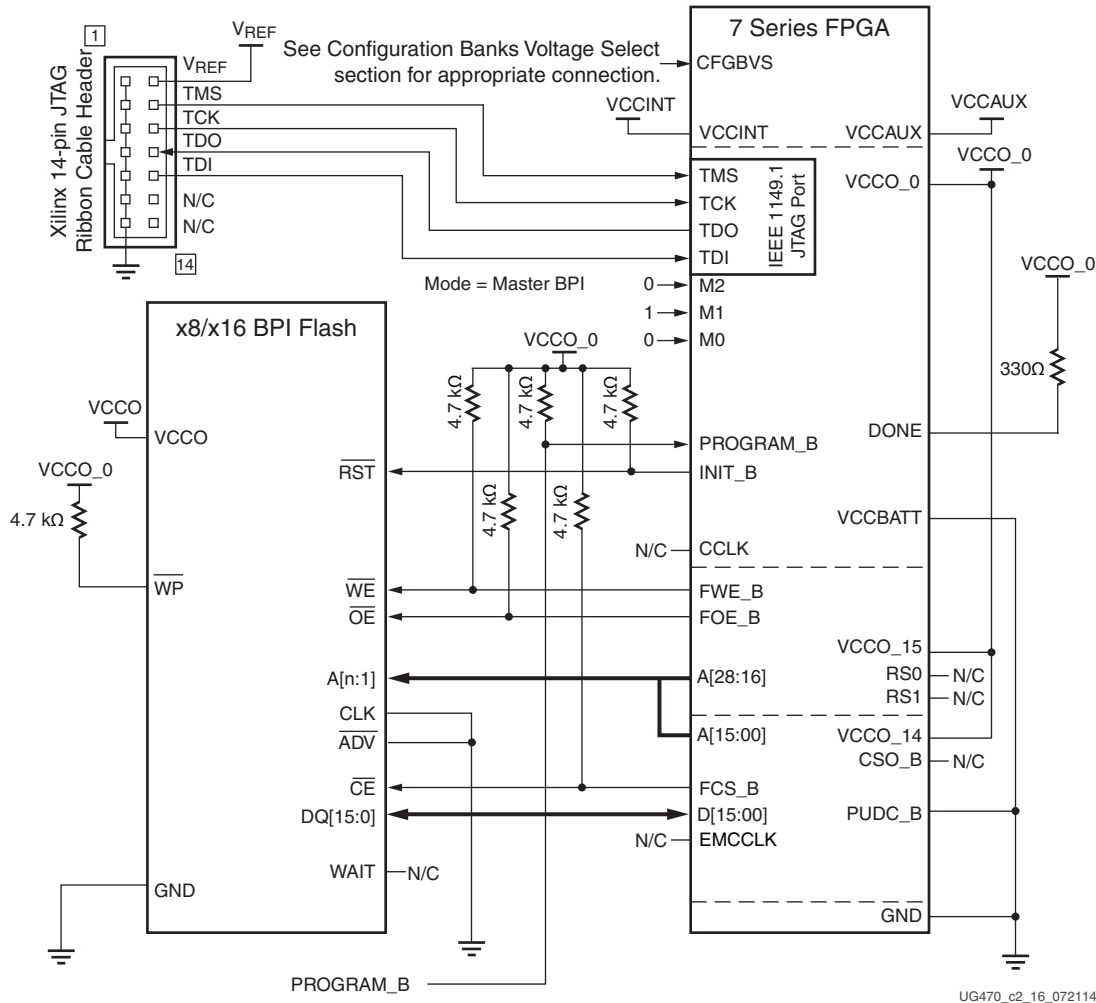

Figure 2-17: 7 Series FPGA Master BPI Configuration Interface - Asynchronous Read Example
By default, 7 series FPGAs use the asynchronous mode of the BPI flash to read bitstream data as shown in Figure 2-17, page 56. The FPGA drives the address bus from a given start address, and the BPI flash sends back the bitstream data. The default start address is address 0. The start address can be explicitly set in a MultiBoot reconfiguration procedure as outlined in Chapter 7, *Reconfiguration and MultiBoot*. In asynchronous read mode, supported bus widths of x8 and x16 are auto-detected as described in *Bus Width Auto Detection*, page 74.
Notes relevant to Figure 2-17:
4. Figure 2-17 shows the x16 BPI interface. For x8 BPI interfaces, only D[07:00] are used. See Bus Width Auto Detection, page 74.
7. The RS[1:0] pins are not connected as shown in Figure 2-17. These output pins are optional and can be used for MultiBoot configuration. See Chapter 7, Reconfiguration and MultiBoot.
11. The FPGA mode (M[2:0]) pins are shown set to Master BPI mode (010). The implementation of a board-level option that enables the user to change the FPGA mode pins to JTAG mode (101) is recommended to enable JTAG-based debug capability for the FPGA during design. This is not required, but the JTAG mode setting ensures that there is no interference from the Master BPI configuration during debug.